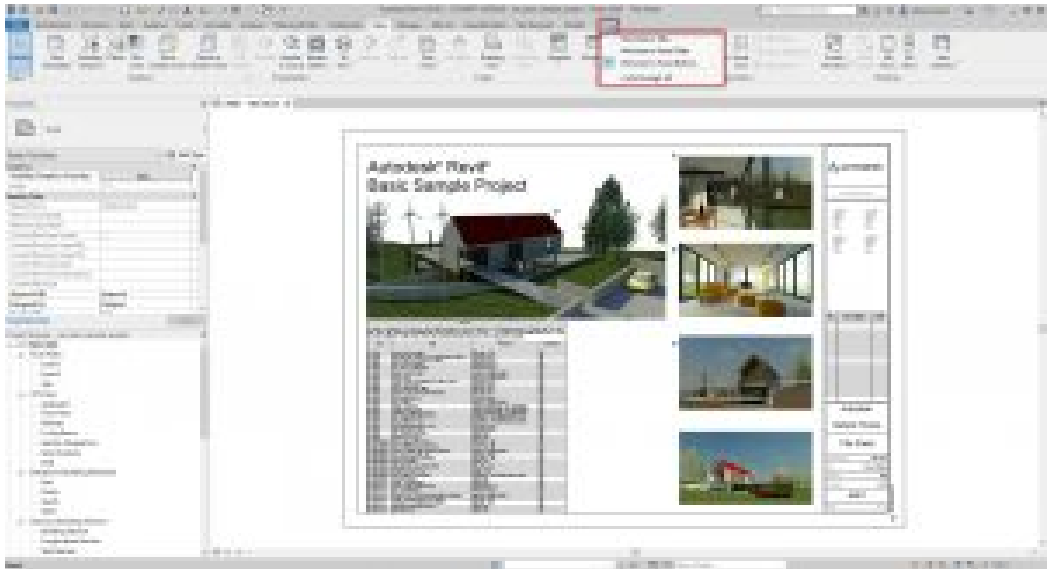

Figure 1.4 Ribbon display options
1. Above the ribbon, to the right of the tabs, click the icon  as shown in Figure 1.4